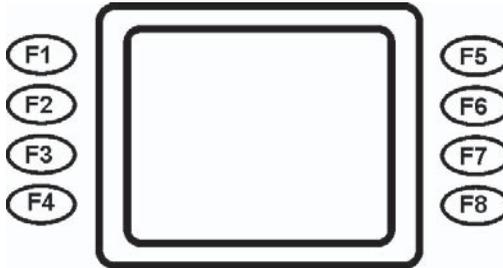

Figure 2-2. Function key layout.
The eight (8) keys, arranged in two four-key groups, are called screen function keys. A screen function key is only active when a corresponding function or menu option is present next to that key. The Function keys are designated F1 through F8, as shown in Figure 2-2.